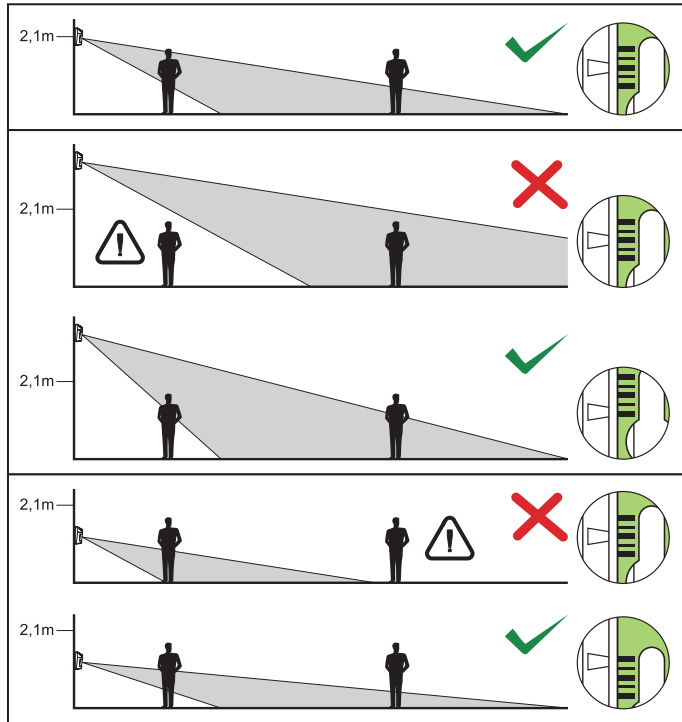

Figure 4. The controlled area depending on the detector installation height and positioning of pyroelement in relation to the lens for the optimal setting.
**NC** – relay (NC).
- 8 – scale for positioning of pyroelement against the lens (see Table 2 and Figure 4).
6. Fasten the electronics board, taking into consideration the height of detector installation (see Table 2 and Figure 4).